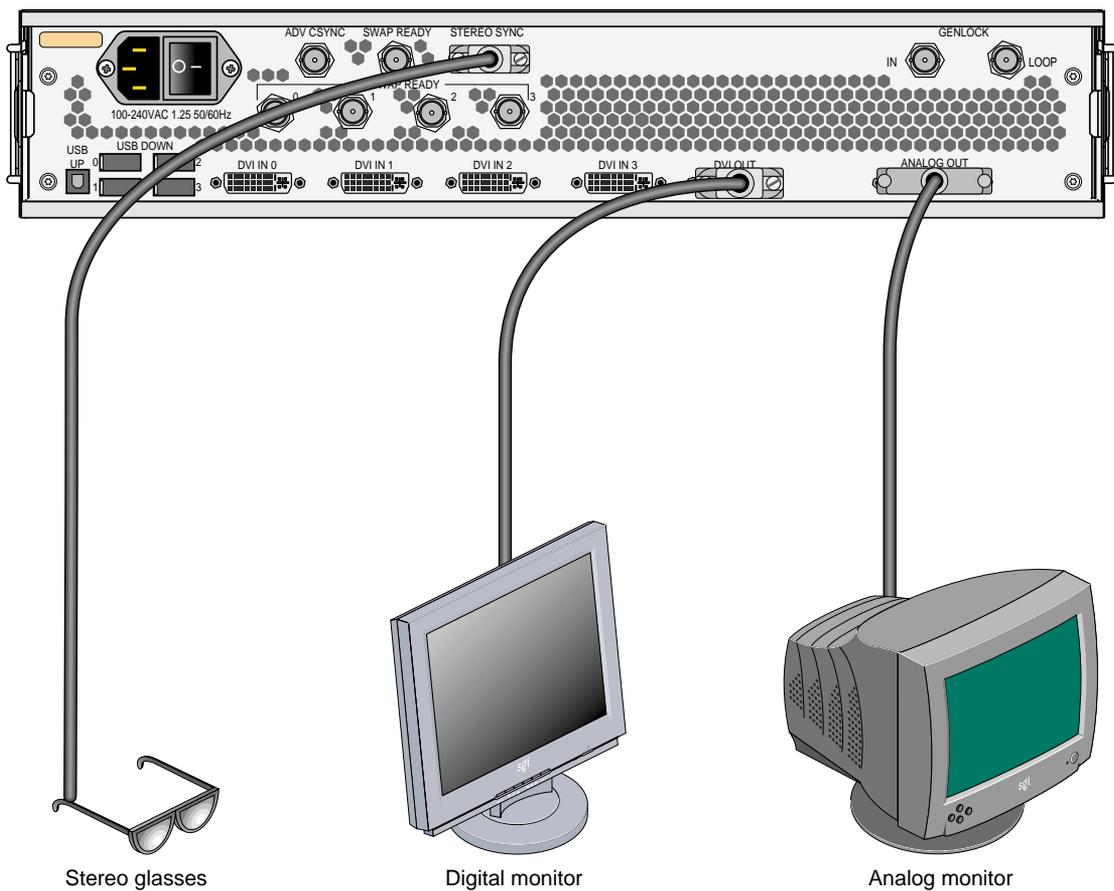

Figure 2-14 Connecting to Digital and Analog Monitors
8. As is applicable to your cabling installation, connect the following items to the compositor (as shown in Figure 2-14):
11. Press the compositor power switch to the ON (I) position.
- **Stereo:** This selection splits the data source inputs into stereo glasses so that one pipe provides the data for the right eye (input 0) and another pipe provides the data for the left eye (input 1). (This selection works only if you have inputs from two InfinitePerformance pipes.) This stereo function increases viewing performance by alternating between the two inputs to enhance the viewing output. You must connect stereo glasses to the **STEREO SYNC** connector on the rear panel of the compositor to use this function. See Figure 2-14 on page 31.